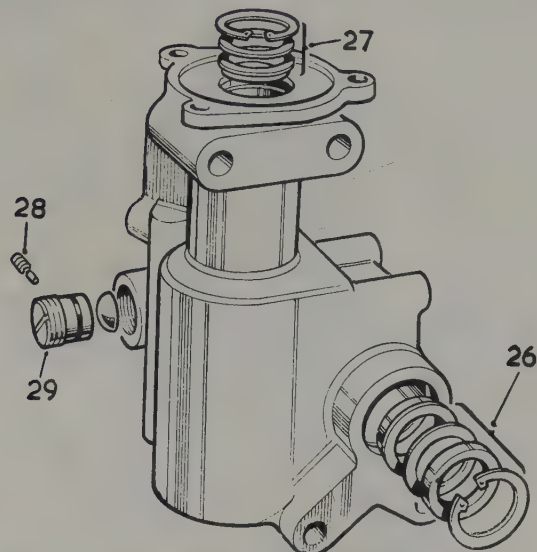

Fig. 11.42. Power steering box components
- 17 Remove the circlip and seals from the input shaft housing bore (Fig. 11.42).
- 35 Refit the valve and worm assembly using the original shims and inner bearing cup. If new shims are used they should be of 0.030 in (0.76 mm) nominal thickness. Fit the inner cage and ball race, the valve and worm assembly (taking care not to damage the input shaft oil seal), the outer bearing assembly and cup (Fig. 11.42).